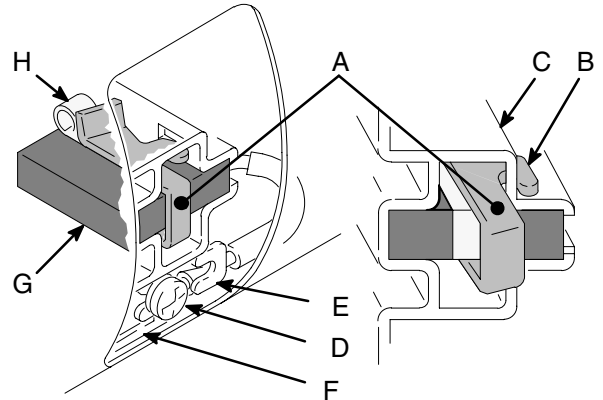

Fig. 8
4. Fig. 8. Push in 110816 spring clip (A) to release hooks (B) from brush holder (C). Pull out spring clip.
5. Fig. 8. Loosen terminal screw (D). Pull brush lead (E) away, leaving motor lead (F) in place. Remove brush (G) and spring (H).
8. Fig. 8. Slide brush lead (E) under washer of terminal screw (D) and tighten screw. Be sure motor lead (F) is connected at terminal screw.